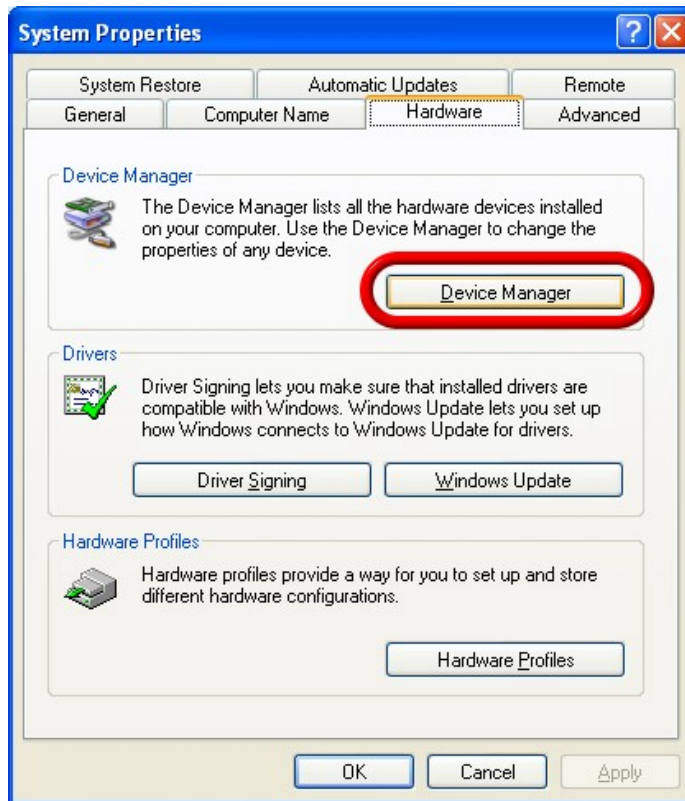

Figure 7-5: Open Device Manager
Step 9: The screen in **Figure 7-5** appears.
Step 10: Double click the **DEVICE MANAGER** tab in **Figure 7-5**.